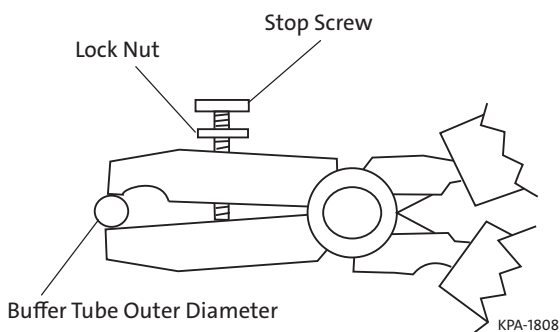

Figure 9
Step 3: Adjust the stop screw on the crimping tool (p/n M67-020) so the jaws of the tool are equal to the outer diameter of the buffer tube (Figure 9).